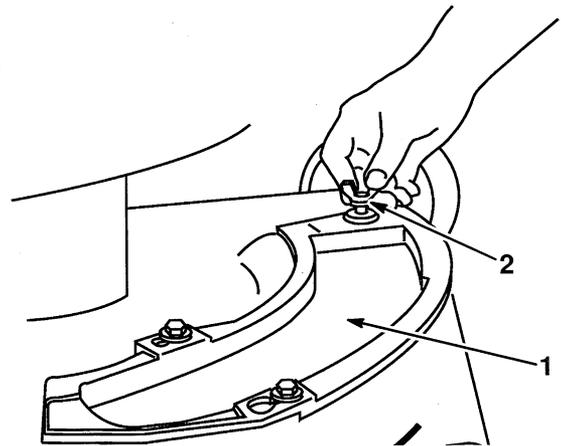

Figure 37
2. Remove wing screw that fastens cover plate to housing (Fig. 37).